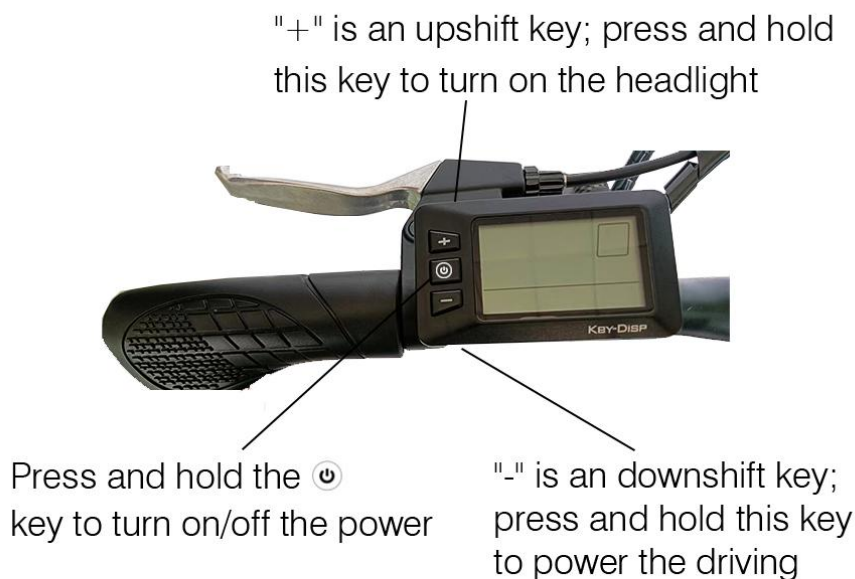

Figure 3 (left handlebar)
- 2.Turn on: Referring to Figure 3, press and hold the  key to turn on/off the power.
- 4.Headlight: Referring to Figure 3, press and hold the "+" key to turn on/off the headlight.